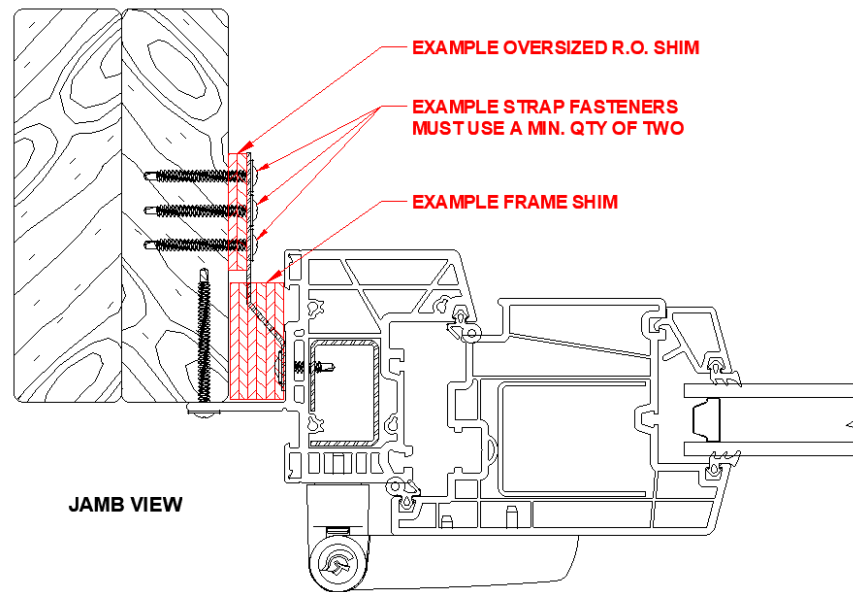

Figure 21: Example of Oversized R.O Shim Requirements
A) Frame squaring is essential. To do this properly one must first take corner to corner dimensions (D1 & D2) then determine if both dimensions are within the allowed 1/8" of tolerance. If not, then split the difference and that is the overall adjustment that needs to be made. See Figure 21.